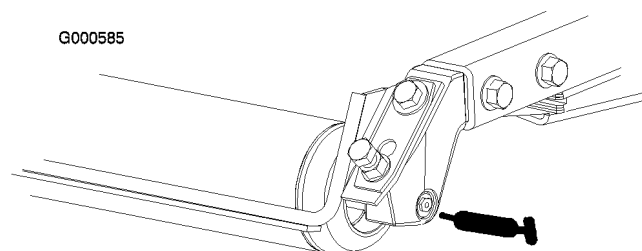

Figure 27
- Rear roller bearings (2 per cutting unit) (Figure 27)
Note: The flush fittings on the rollers (Figure 27) require a grease gun nozzle adapter. Order Toro Part No. 107-1998 from your Authorized Toro Distributor.